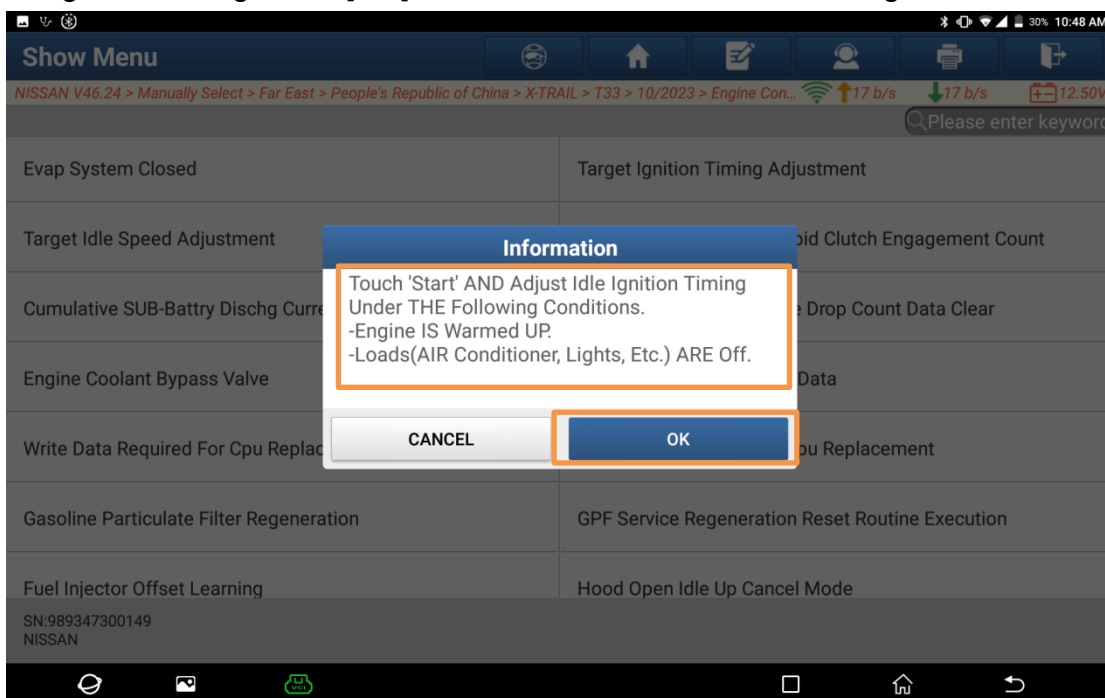

Figure 12
- Read the pop-up prompts carefully (Figures 12 and 13). Ensure that the engine has been fully warmed up and all unnecessary electrical loads (such as A/C and lights) have been turned off before adjusting the idle ignition timing. Click [OK] to enter the interface shown in Figure 14.